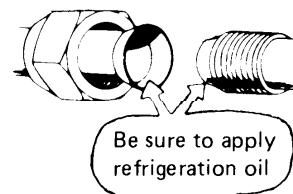

Fig. 26
- b) Be sure to apply refrigeration oil to the matching surfaces of flare and union before connecting them together. This is effective for reducing gas leaks. Fig. 26